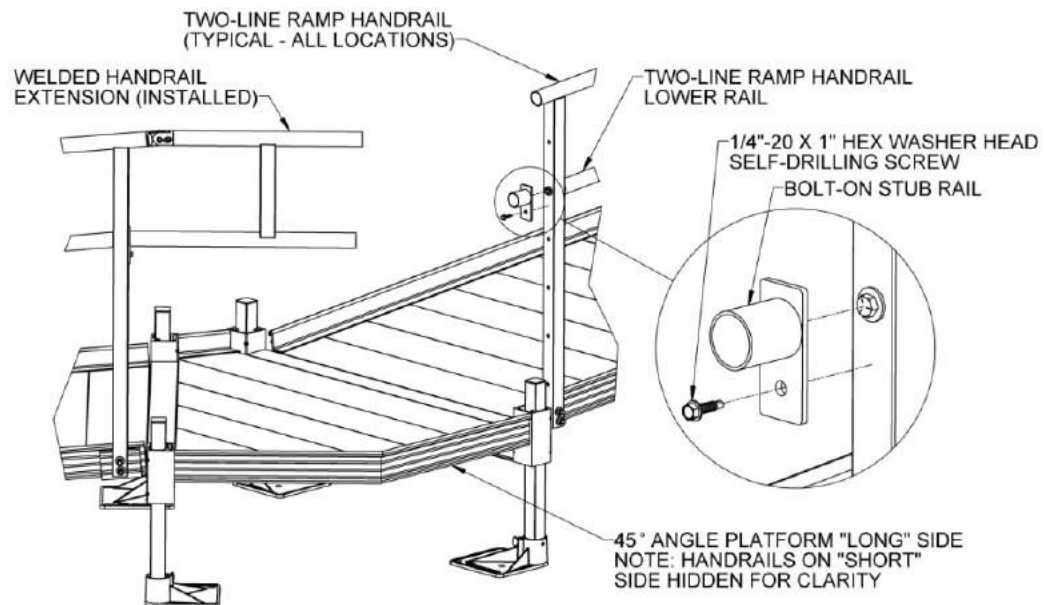

FIG. 4.19
- 4.8.11. Attach a BOLT-ON STUB RAIL to the ramp handrail post on the opposite side of the welded "H". Center the large hole in the BOLT-ON STUB RAIL over the bolt and washer attaching the lower ramp handrail (or over the second hole from the top if no rail is present) and secure using a 1/4"-20 x 1" hex washer head self-drilling screw (FIG. 4.19).